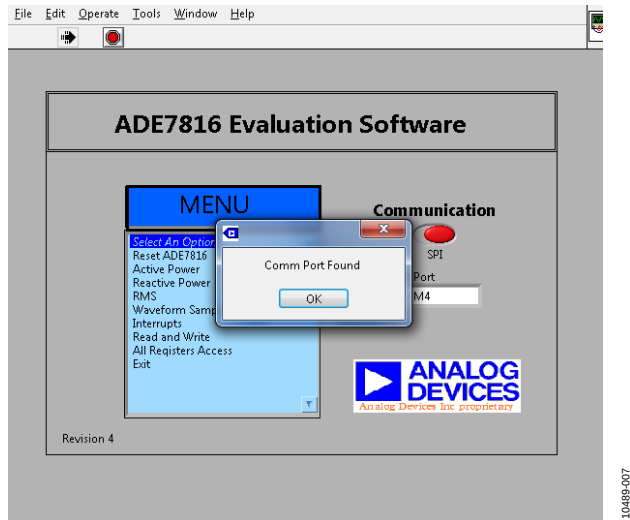
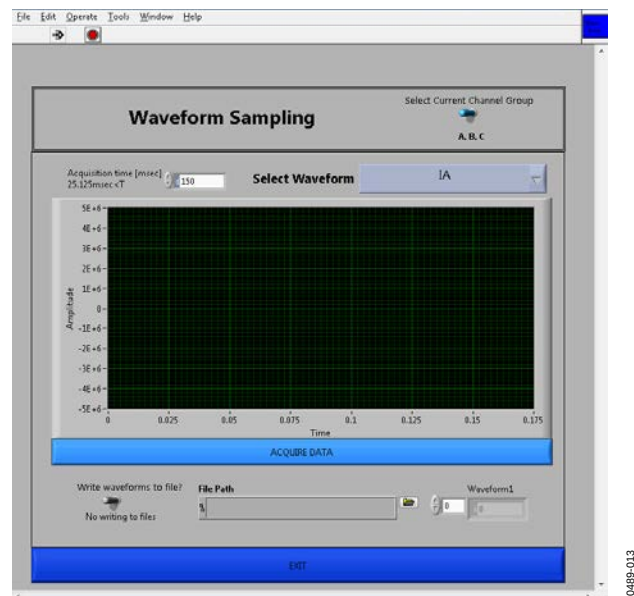

Figure 7. ADE7816 Evaluation Software Main Window
Figure 13. Waveform Sampling Window
When the evaluation software is running, it automatically detects the COM port that the ADE7816 evaluation board is connected to. If the port detection is successful, the COM port number appears in the **Port Control** field, as shown in Figure 7 (COM4 in this example).
1. Click **Yes** to return to the ADE7816 Evaluation Software main window (see Figure 7).
The **ADE7816** evaluation software allows access to all registers and features of the **ADE7816** using SPI, I²C, and HSDC communication. By default, the evaluation board is configured to be used with SPI. To change the mode of communication to I²C, change the JP31, JP32, JP33, and JP34 jumpers to Position 1, Position 2. Then, change the communication switch in the main window of the evaluation board software to I²C (see Figure 7). Once a menu option is selected, the communication mode locks. To change the communication after this time, the **ADE7816** must be powered down by removing the power on P9.
These options provide access to all internal registers and allow the evaluation of the performance of the **ADE7816** (see Figure 7). To access these functions, click the desired option in the **MENU** panel. Click on an option under **MENU** to display a window where the specific function can be accessed.
The **Waveform Sampling** window is shown in Figure 13. To use the **Waveform Sampling** window, I²C must be selected as the communication interface (see Figure 7) in the ADE7816 Evaluation Software main window. The I²C interface is used in conjunction with the HSDC interface (see the ADE7816 data sheet).
Next, go to the **ADE7816 Evaluation Software** main window and click **Exit** from the menu drop-down list (see Figure 7). Verify that the correct COM port is selected and ensure that the currently configured communication mode is selected in the pull-down list. Refer to Table 1 to verify that the correct jumpers are installed for the selected communication interface.